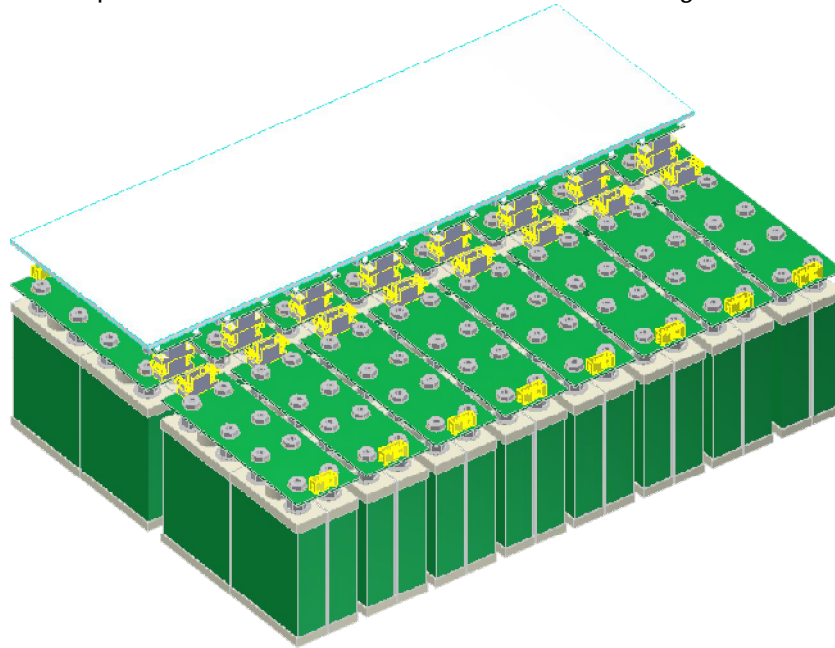

Figure 3
- 3.) Connect the power and communications cables as shown in *figure 3*